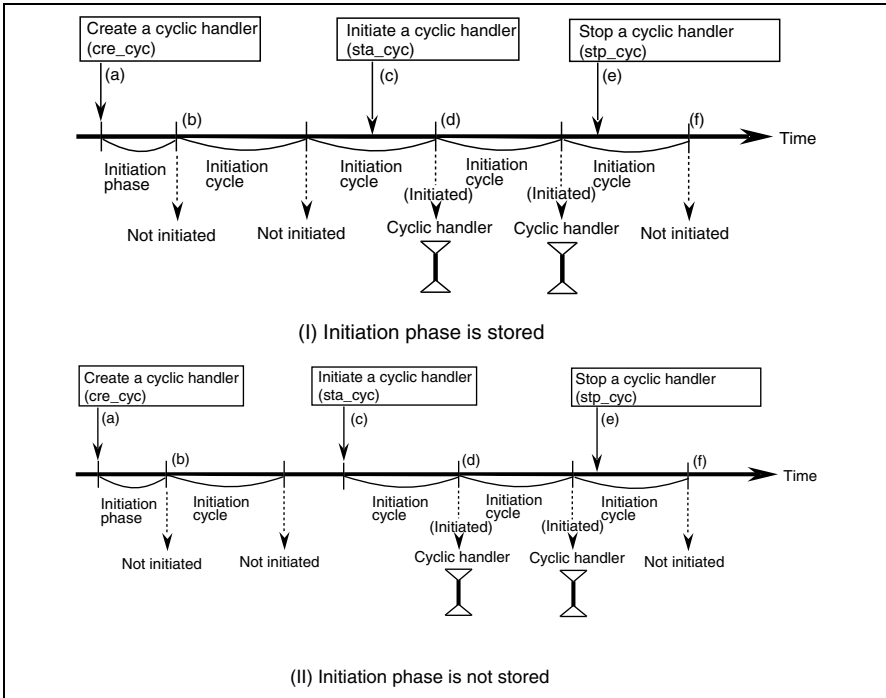

Figure 2.15 Example of Using Cyclic Handler
Figure 2.15 shows an example of using cyclic handler.
- (c) When the initiation phase is stored as shown in (I) in figure 2.15, the cyclic handler is initiated based on the initiation cycle after the cyclic handler has been created. When the initiation phase is not stored as shown in (II) in Figure 2.15, the cyclic handler is initiated based on the initiation cycle after the sta_cyc service call has been issued.